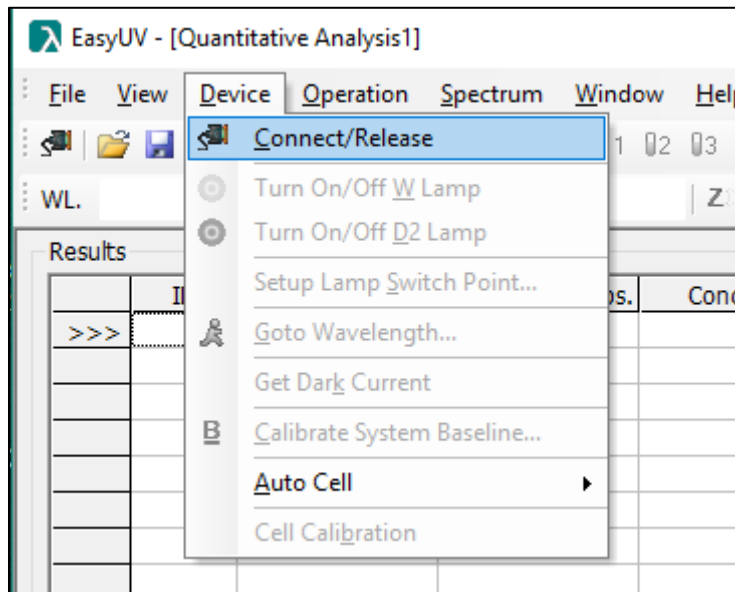

Figure 2.6-5 Connect/Release from Device menu
- Menu **Device** → **Connect/Release** (Fig.2.6-5)